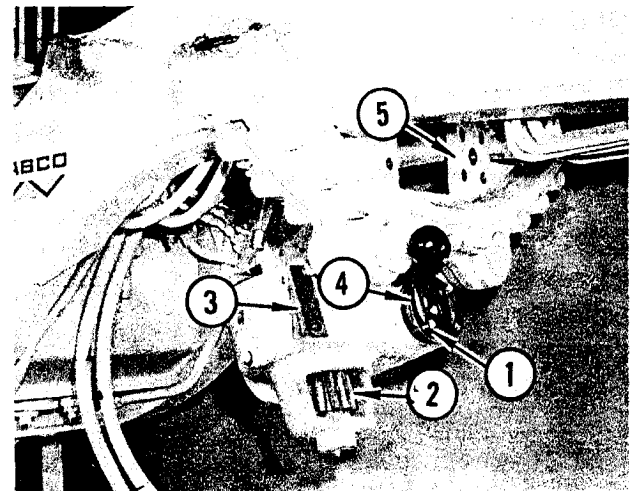

FIGURE 27. GEAR HOUSING REMOVAL
Refer to Figure 27. Move gearhousing to rear until studs (1) have cleared L.H.